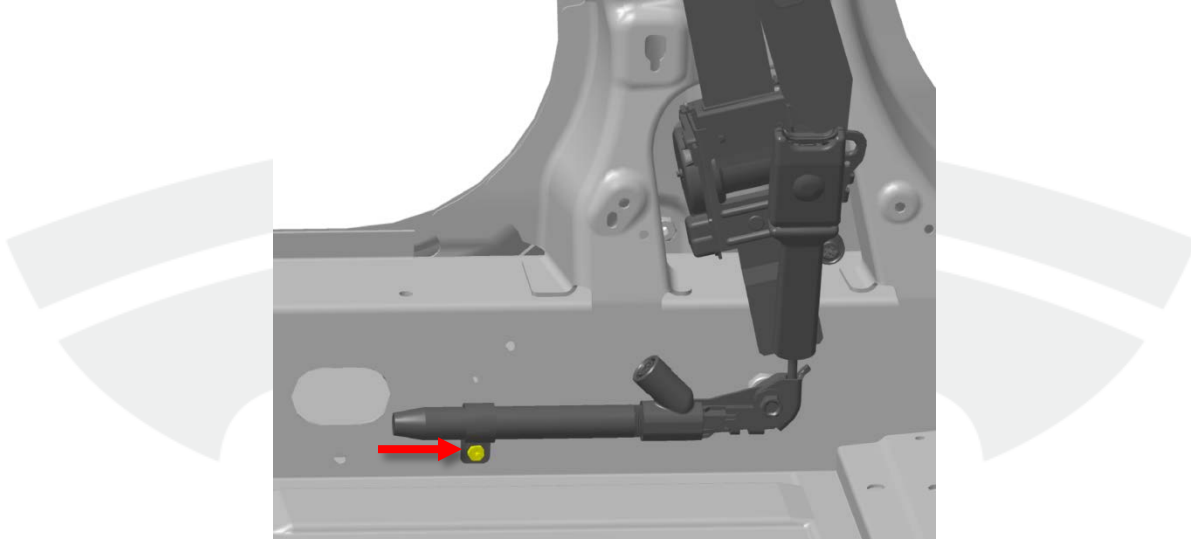

Figure 1
2. Inspect the bolt that secures the seat belt pre-tensioner support bracket to the body of the vehicle (Figure 1).